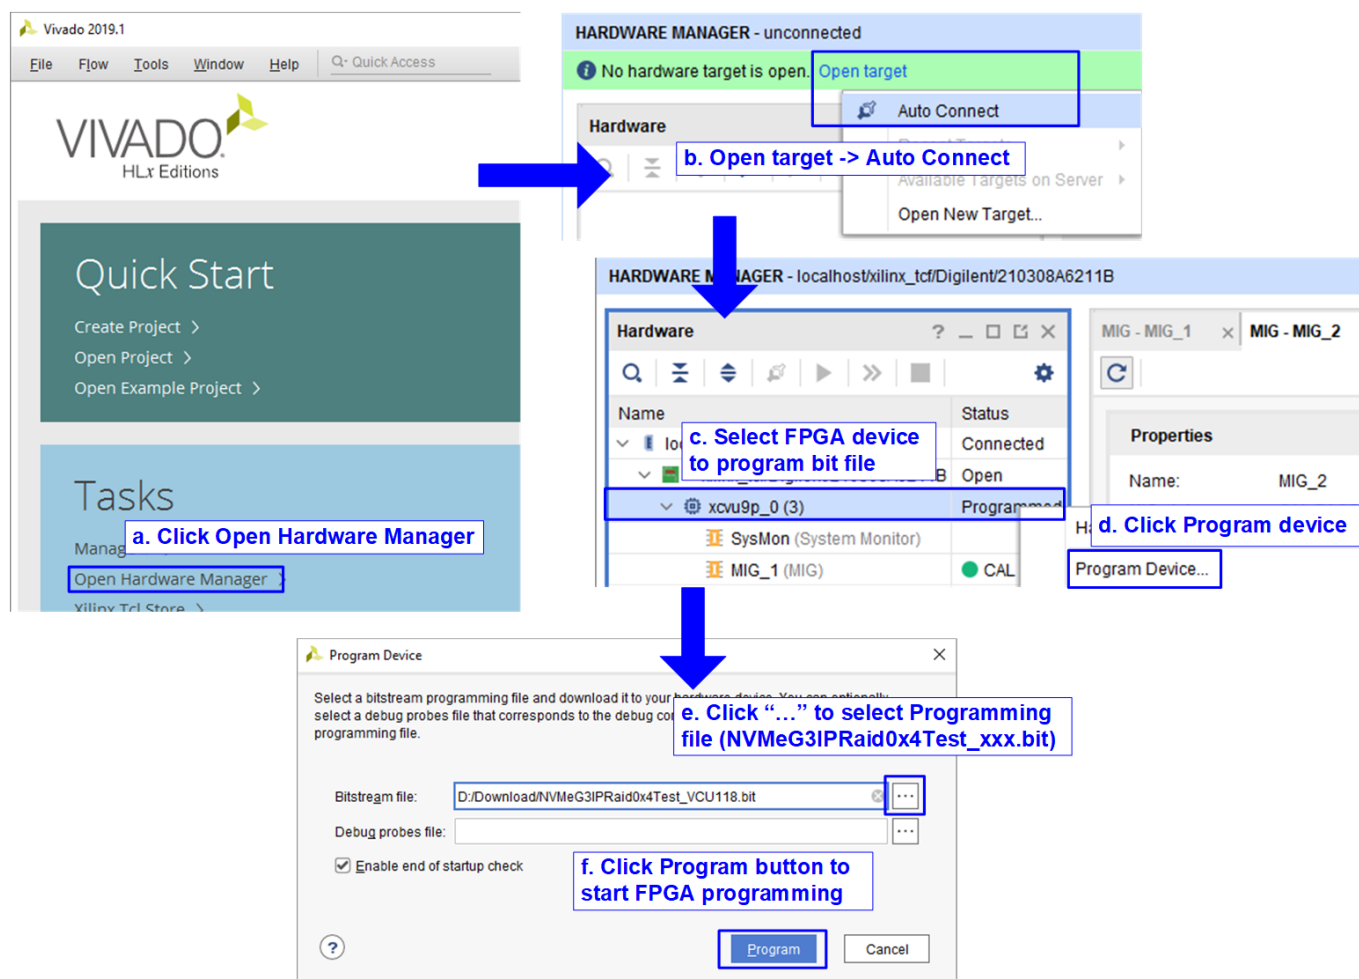

Figure 2-7 Programmed by Vivado
7) Use Vivado tool to download configuration file, as shown in Figure 2-7.